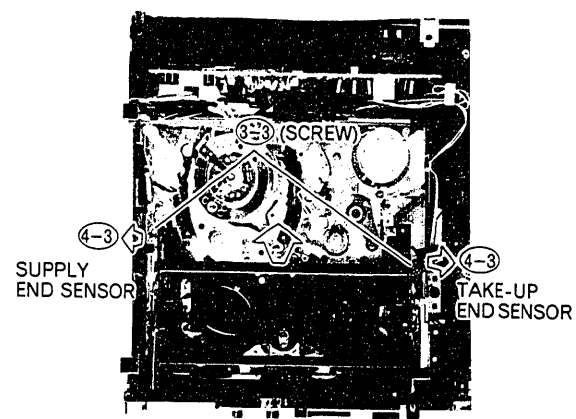

Fig. 18 Cassette Holder/Supply (Take-up) End Sensor
3. Cassette Holder (Fig. 18)
4. Supply (Take-Up) End Sensor (Fig. 18)